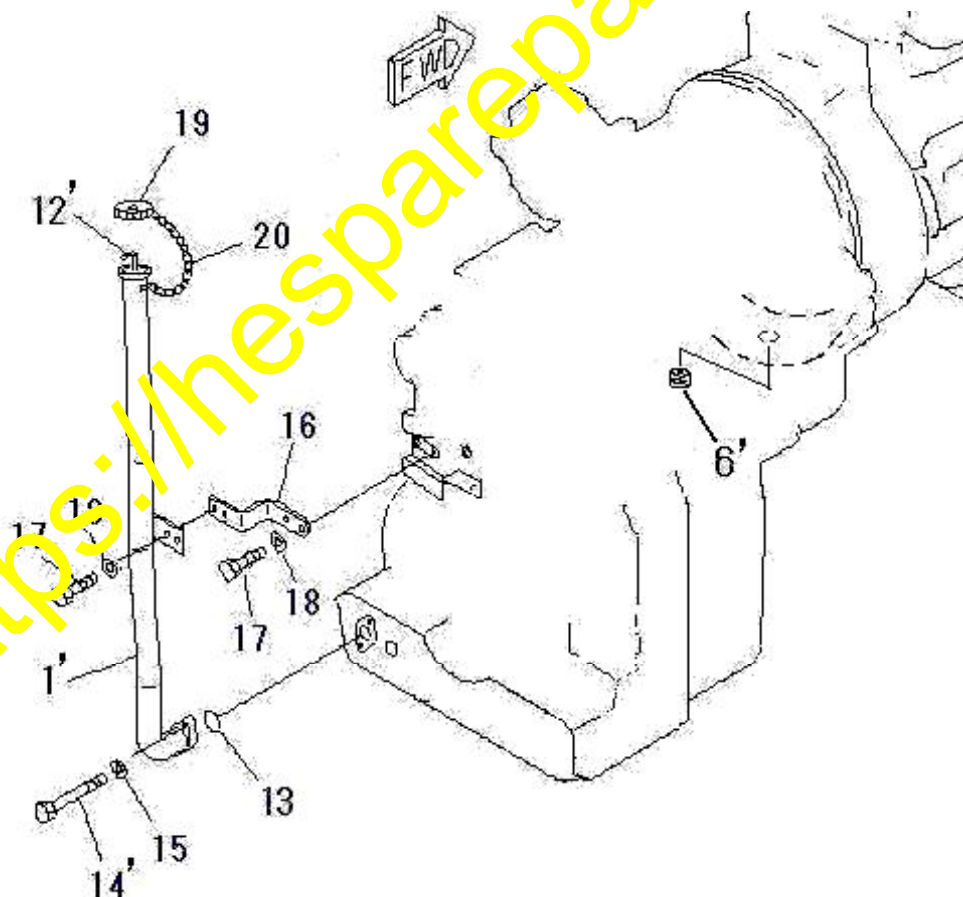

Fig. 3
(2) Removal of the oil filler tube (Fig. 3)
(3) Removal of the drain plug for the flywheel housing of engine (Fig 3)